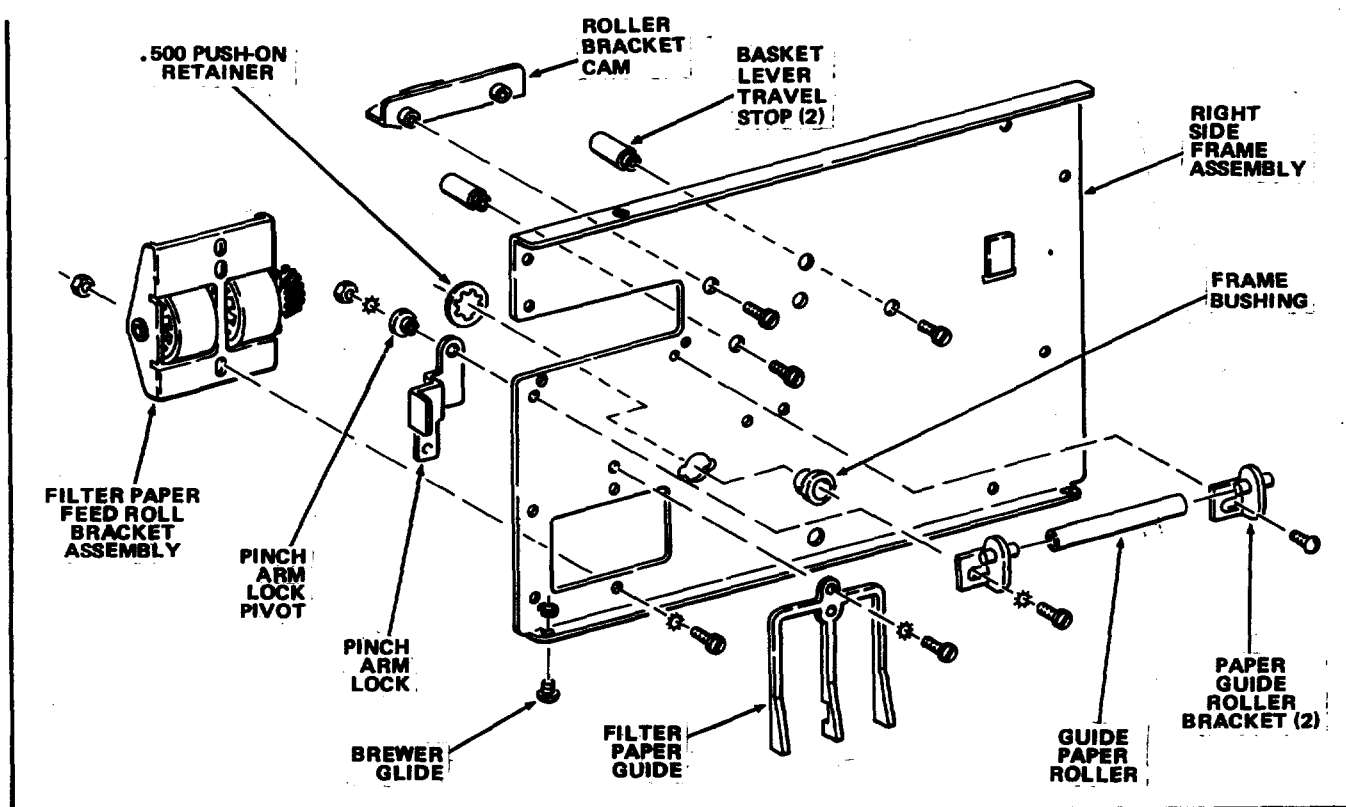

FIGURE 4
16. Remove two No.8-32 Stainless Nuts, four No.8-32 Stainless Lockwashers and two No.8-32 x 1/2 Stainless Hexagon Head Screws, and the Filter Paper Guide from the Right Side Frame Assembly. See Figure 4.
17. Remove a No.8-32 Stainless Nut, two No.8-32 Stainless Lockwashers, a Pinch Arm Lock Pivot, a No.8-32 x 1/2 Stainless Hexagon Head Screw, Pinch Arm Lock, Paper Guide Roller Bracket and the Guide Paper Roller from the Right Side Frame Assembly. See Figure 4.
18. Remove a No.8-32 x 3/16 Stainless Truss Head Screw and the other Paper Guide Roller Bracket from the Right Side Frame Assembly. See Figure 4.
19. Remove a No.8-32 Stainless Nut, two No.8-32 Stainless Lockwasher, a No.8-32 x 3/16 Stainless Hexagon Head Screw, and the Filter Paper Feed Roll Bracket Assembly from the Right Side Frame Assembly. See Figure 4.
20. Remove two No.10-32 x 1/2 Stainless Pan Head Screws with Lockwashers and the Roller Bracket Cam from the Right Side Frame Assembly. See Figure 4.
21. Remove two No.10-32 x 1/2 Stainless Pan Head Screws with Lockwashers and two Basket Lever Travel Stops from the Right Side Frame Assembly. See Figure 4.
22. Remove the .500 Push On Retainer from the Frame Bushing and remove the Frame Bushing from the Right Side Frame Assembly. See Figure 4.
23. Remove two Retaining Rings and two Brewer Glides from the Right Side Frame Assembly. See Figure 4.